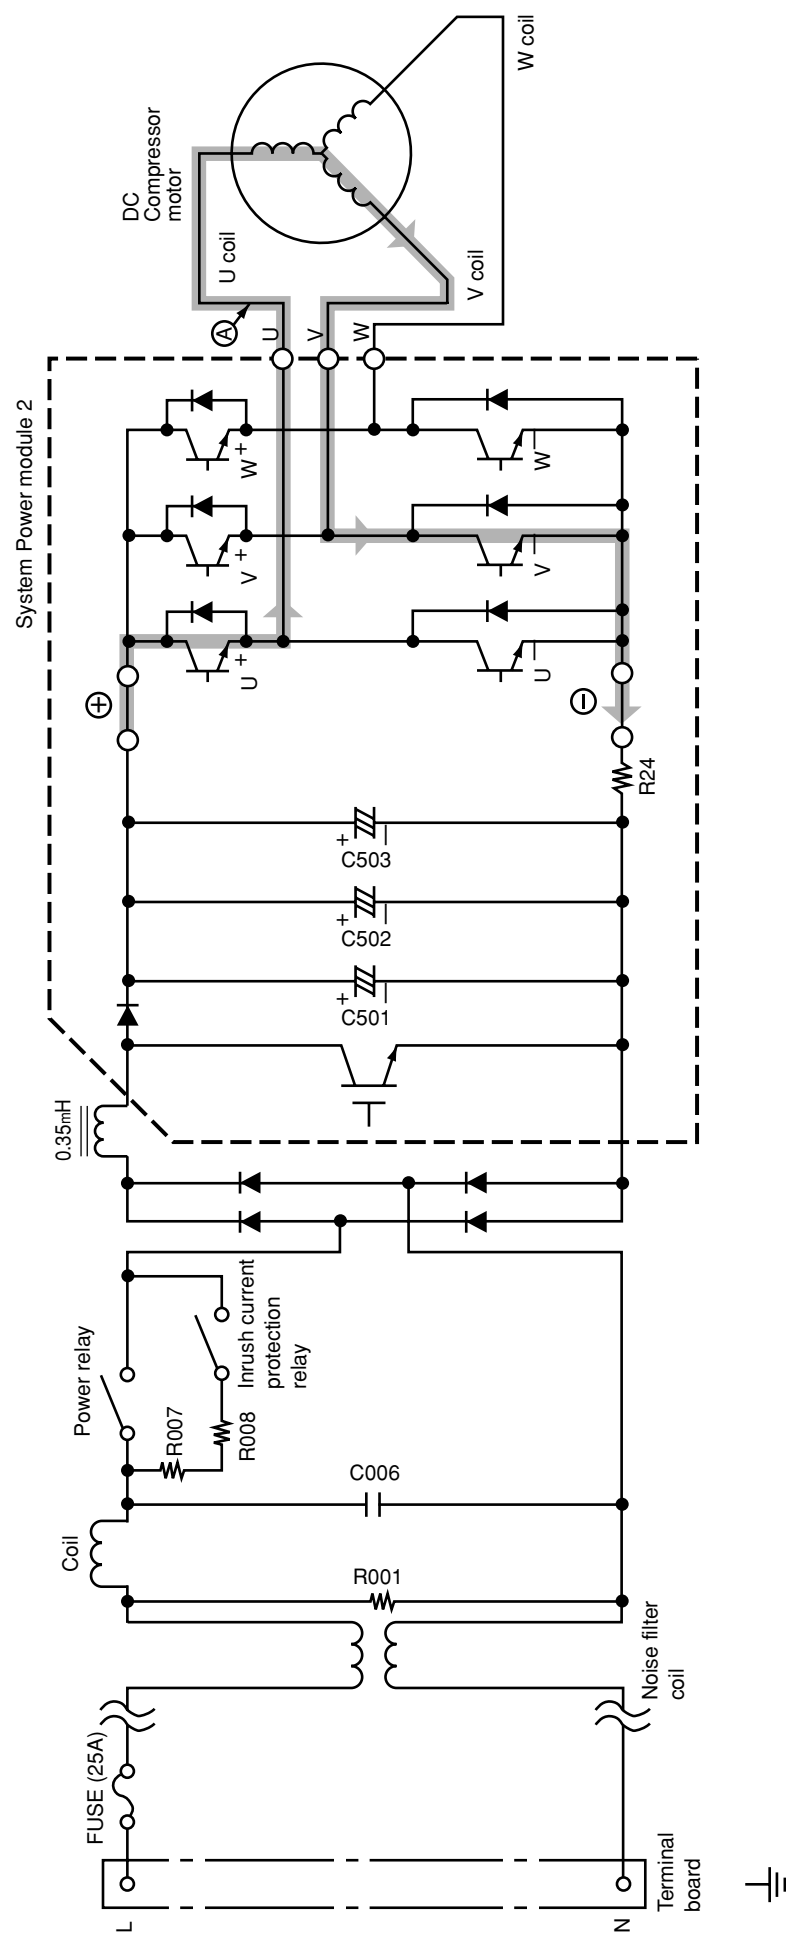
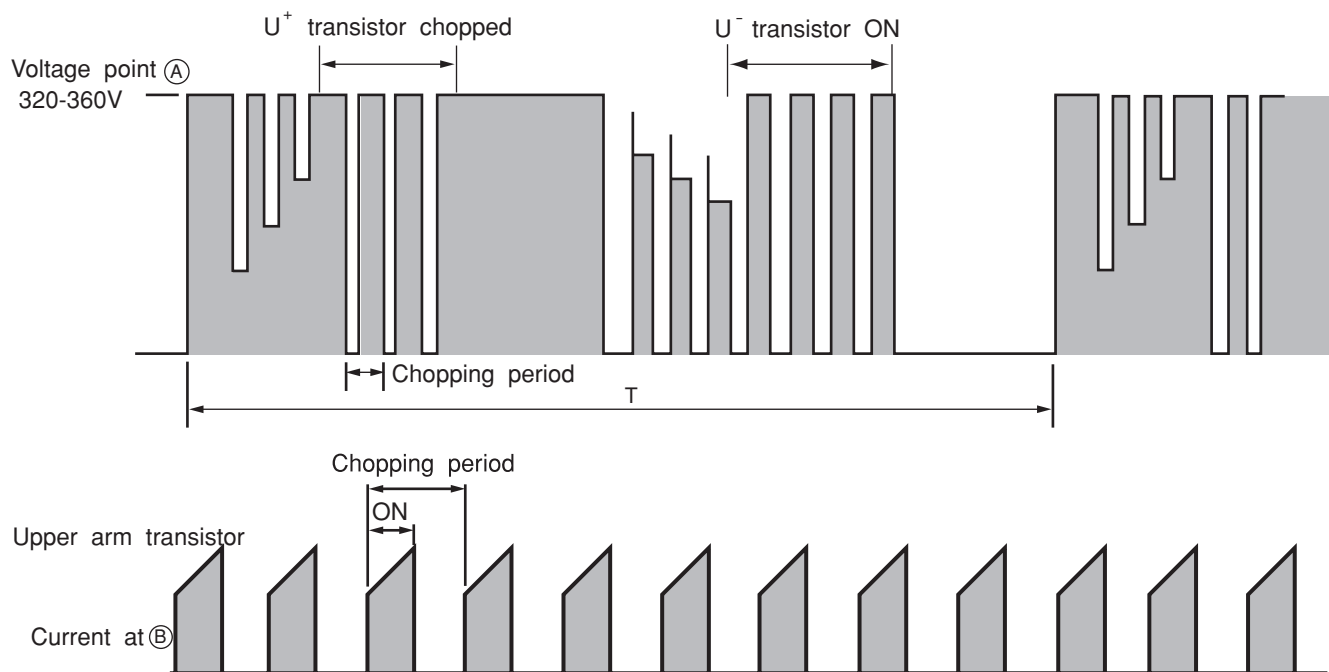

Fig. 3-1 Power module circuit (U+ is ON, V- is ON)
Fig. 3-3 Voltage waveform at each point
- Fig. 3-1 shows the system power module and its peripheral circuit. (Current ACT module and power module are combined into one unit.) The three transistors on the positive ⊕ side are called the upper arm, and the three transistors on the negative ⊖ side, the lower arm.
※ At point E: U+ is ON, V- is ON (circuit in Fig. 3-1)
- Fig. 3-3 shows voltage / current waveform at each point shown in Figs. 3-1 and 3-4. First half of upper arm is chopper, second half is ON, and first half of lower arm is chopper, second half is ON.
- When power is supplied U+ → U-, because of that U+ is chopped, current flows as shown below; ②
- (1) When U+ transistor is ON: U+ transistor → U coil → V coil → V- transistor → DC current detection resistor → Point ② (Fig. 3-1)
- Since current flows at point B only when U+ transistor and V- transistor is ON, the current waveform at point B becomes intermittent waveform as shown in Fig. 3-3. Since current at point B is approximately proportional to the input current of the air conditioner, input current is controlled by using DC current (Id) detection resistor.